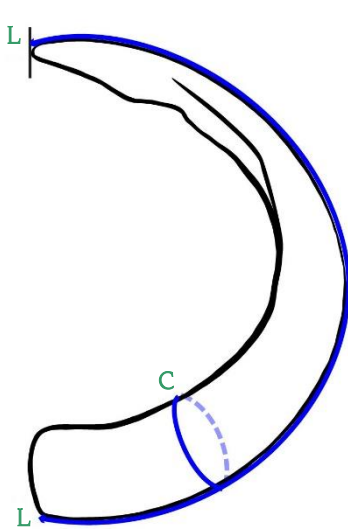
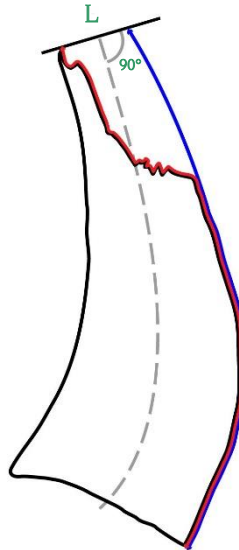
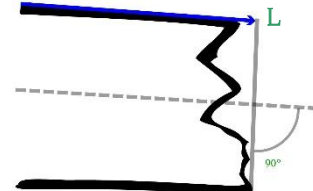

Figure 2
Figure 3
Figure 4
1. Length. Measure the length of the two longest tusks on the outside curve from the base to the tip. (Figure 2, L). Start the measurement at the base in line with the furthest projection of the tusk's ending; this is determined by drawing an imaginary line at a 90 degree angle to the axis of the tusk along the tip of the furthest projection. (Figure 4) Many tusks are very worn off (or broken) if this is so they must be carded off. The tape must not bend around to reach the tip. (Figure 3) (See "carding off" in General Instructions.)